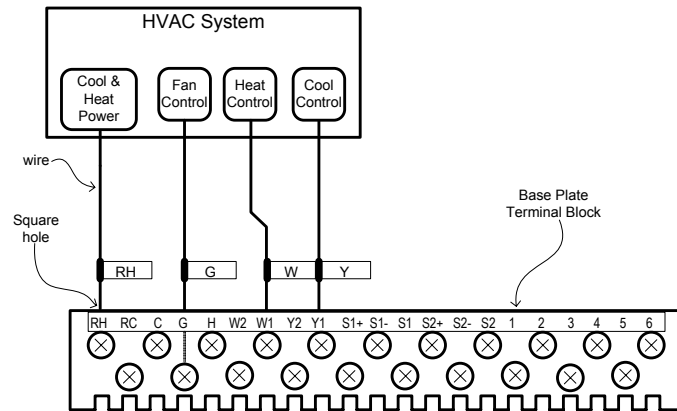

Figure 1 Connections for Single Stage HVAC
3. Connect labeled wires only to a terminal post with the corresponding letter as shown in Figure 1 for Single Stage HVAC.